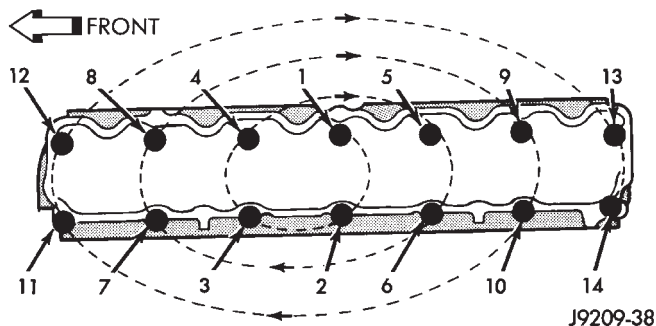

Fig. 37 Engine Cylinder Head Bolt Tightening Sequence
(3) With bolt No.14 held in place (tape around bolt), install the engine cylinder head over the same dowels used to locate the gasket. Remove the tape from bolt No.14.
(4) Coat the threads of stud bolt No.11 with Loctite 592 sealant, or equivalent.
(5) Tighten the engine cylinder head bolts in sequence according to the following procedure (Fig. 37).